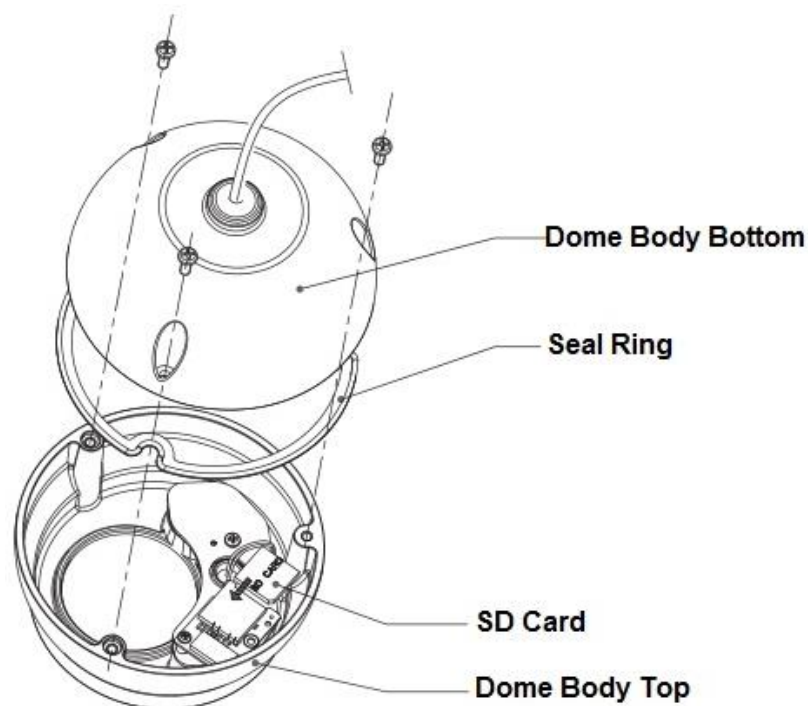

Figure 2-3
3. Find the location of Micro SD card slot which is shown in Figure 2-3, adjust the direction of Micro SD card, insert it into the card slot and install the Micro SD card properly. Please refer to figure 2-3 for more details.